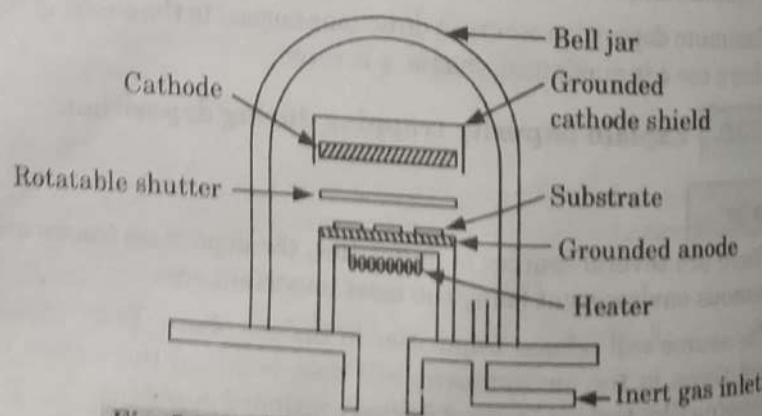

Fig. 5.11.1. Arrangement for vacuum deposition.
1. The arrangement of metallization process using vacuum deposition technique is shown in Fig. 5.11.1.